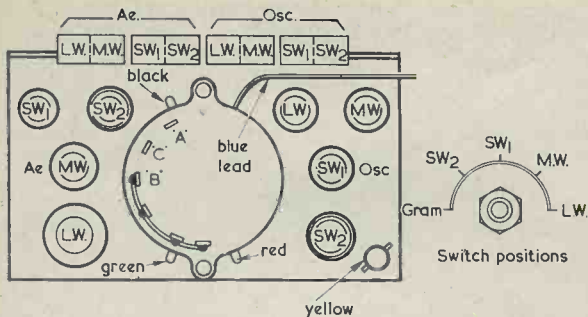

Fig. 10. The coilpack, as viewed from the rear. Also shown are switch positions as they appear on the front panel
Take up the coilpack and turn to Fig. 10. Solder a 2½in. length of insulated wire to the green coilpack tag, the free end being bared for connection later. Solder one end of R5 to the red tag of the coilpack, the lead being covered with Systoflex sleeving and allowing a spacing of about $\frac{1}{2}$ in. between the tag and the resistor body. The free lead of the resistor is left uncut for the moment. These two connections are made at this stage because the tags concerned are difficult to reach after the coilpack has been mounted.
7. Some of the coilpack connections are now made. The coilpack layout is given in Fig. 10. Resistor R5 has already been connected to the red tag. Shortening as necessary, solder the free end of R5 to one lead of C13, connecting the other lead of C13 to pin 8 of V1.
(rear gang) and the blue lead from the coilpack (see Fig. 10). Solder this last connection.
36. Connect the wire from tag 1 of Tagstrip 2 to tag (a) of R13 (see Fig. 11). Connect the centre conductor of a suitable length of coaxial cable to tag A of the coilpack (see Fig. 10). Connect the centre